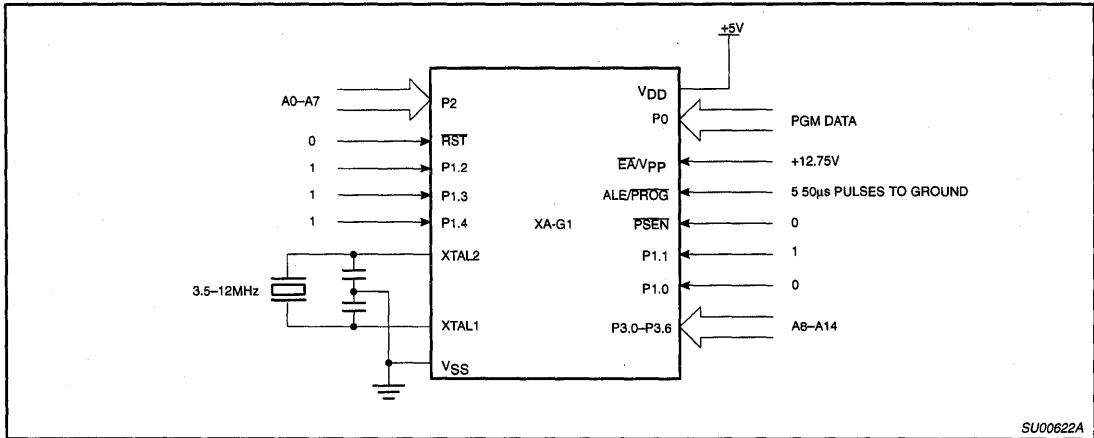
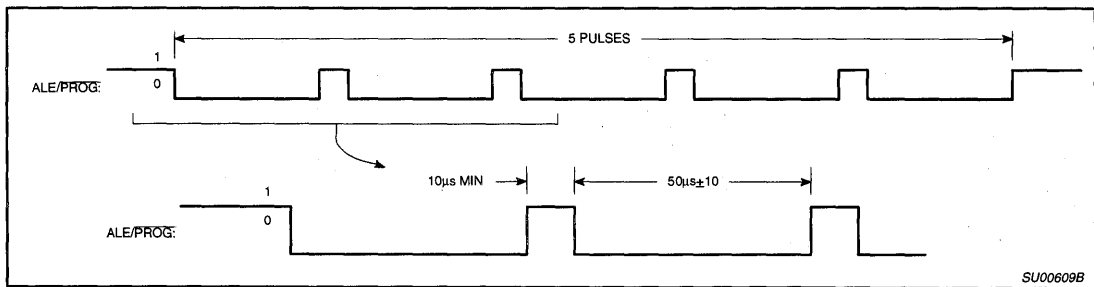
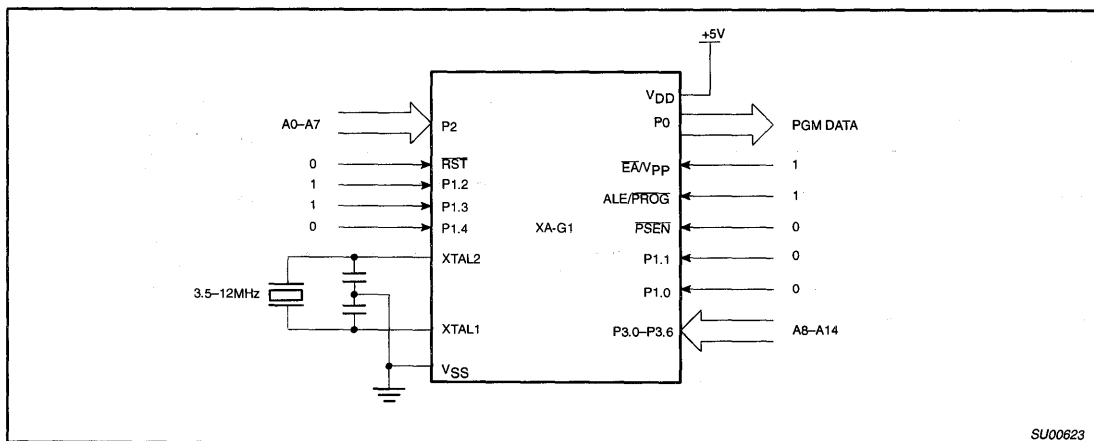

Figure 31. Programming Configuration for XA-G1
Figure 32. PROG Waveform
Figure 33. Program Verification for XA-G1
Table 6 shows the logic levels for reading the signature byte, and for programming the code memory and the security bits. The circuit configuration and waveforms for quick-pulse programming are shown in Figure 31. Figure 33 shows the circuit configuration for normal code memory verification.
The setup for microcontroller quick-pulse programming is shown in Figure 31. Note that the XA-G1 is running with a 3.5 to 12MHz oscillator. The reason the oscillator needs to be running is that the device is executing internal address and program data transfers.
The address of the EPROM location to be programmed is applied to ports 2 and 3, as shown in Figure 31. The code byte to be programmed into that location is applied to port 0. RST, PSEN and pins of port 1 specified in Table 6 are held at the 'Program Code Data' levels indicated in Table 6. The ALE/PROG is pulsed low 5 times as shown in Figure 32.
If security bits 2 and 3 have not been programmed, the on-chip program memory can be read out for program verification. The address of the program memory locations to be read is applied to ports 2 and 3 as shown in Figure 33. The other pins are held at the 'Verify Code Data' levels indicated in Table 6. The contents of the address location will be emitted on port 0.
* FOR PROGRAMMING CONDITIONS SEE FIGURE 32.
* FOR VERIFICATION CONDITIONS SEE FIGURE 33.